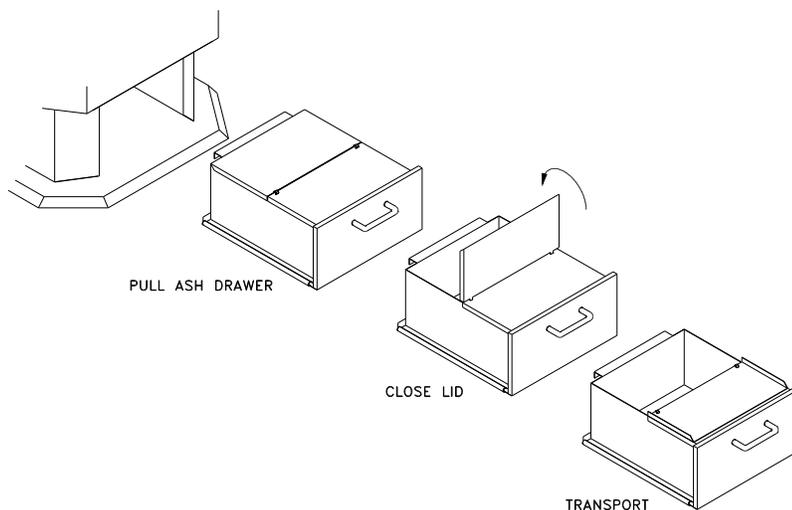

Figure 6: Ash removal
5. Cover the plug with the remaining ashes and continue operation of your stove as usual. The Ash Drawer is shown in Figure 6 and can be removed by pulling it out toward you. Lift the Ash Drawer slightly or the pedestal base may get scratched. Close the rear half of the Ash Drawer lid to prevent spillage. Ashes should be placed in a metal container with a tightly fitting lid. This closed container should be placed on a non-combustible floor or on the ground, well away from all combustible materials, pending final disposal. Ensure the rear half of the lid is open before replacing the Ash Drawer.